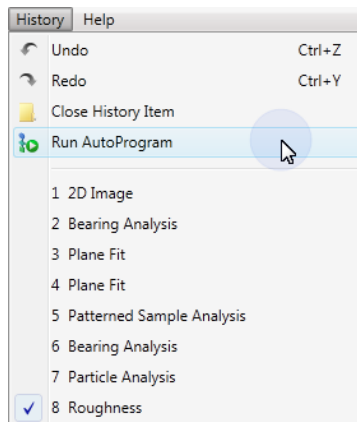

Figure 4.14a: The **History** Menu
1. Click the **Run AutoProgram** icon on the NanoScope Analysis toolbar or click **History > Run AutoProgram** as shown in Figure 4.14a.